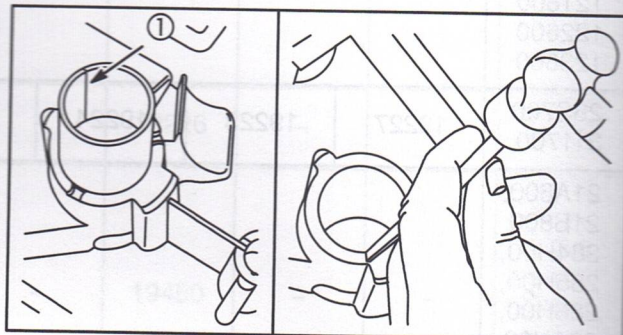

Fig. 8
1. Place DU bearing on cylinder or cover bearing with oil hole in line with oil hole in cylinder or cover bearing. If cover bearing does not have oil hole, place split (when present) of bearing (1) as shown in Fig. 8.